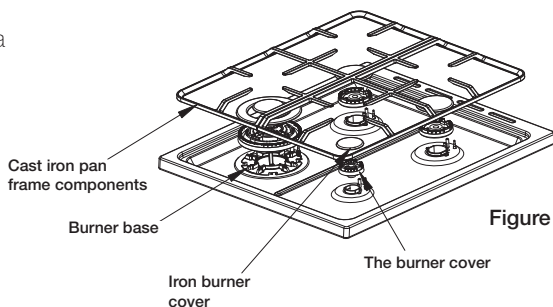

Figure 1
- Open the door to the full extent (fig.1);
- Double oven door: Remove the seal G by unscrew the no.2 bolts (fig.1)